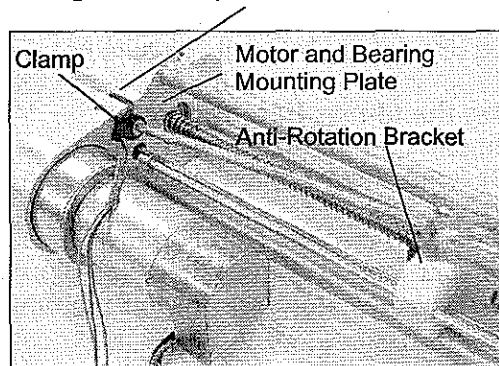

Figure 5-18a: Loosening Clamp
5. Ensure that the Anti-Rotation Bracket is at least 6" from the Motor and Bearing Mounting Plate Assembly. If necessary, move the Anti-Rotation Bracket by manually turning the Ball Screw Pulley (see Figure 5-18a).
- b. Use the Phillips screwdriver to loosen the clamp securing the Linear Potentiometer Cable Harness to the Motor and Bearing Mounting Plate. Release the harness from the clamp (see Figure 5-18a). Do not remove the clamp.